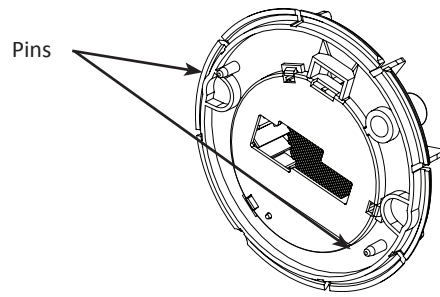

FIGURE 10: Pins on Back of Optic Cage Base
- Line up the two pins on the back of the optic cage base to the pin holes on the circuit board to place the optic cage base on the circuit board (FIGURE 10)